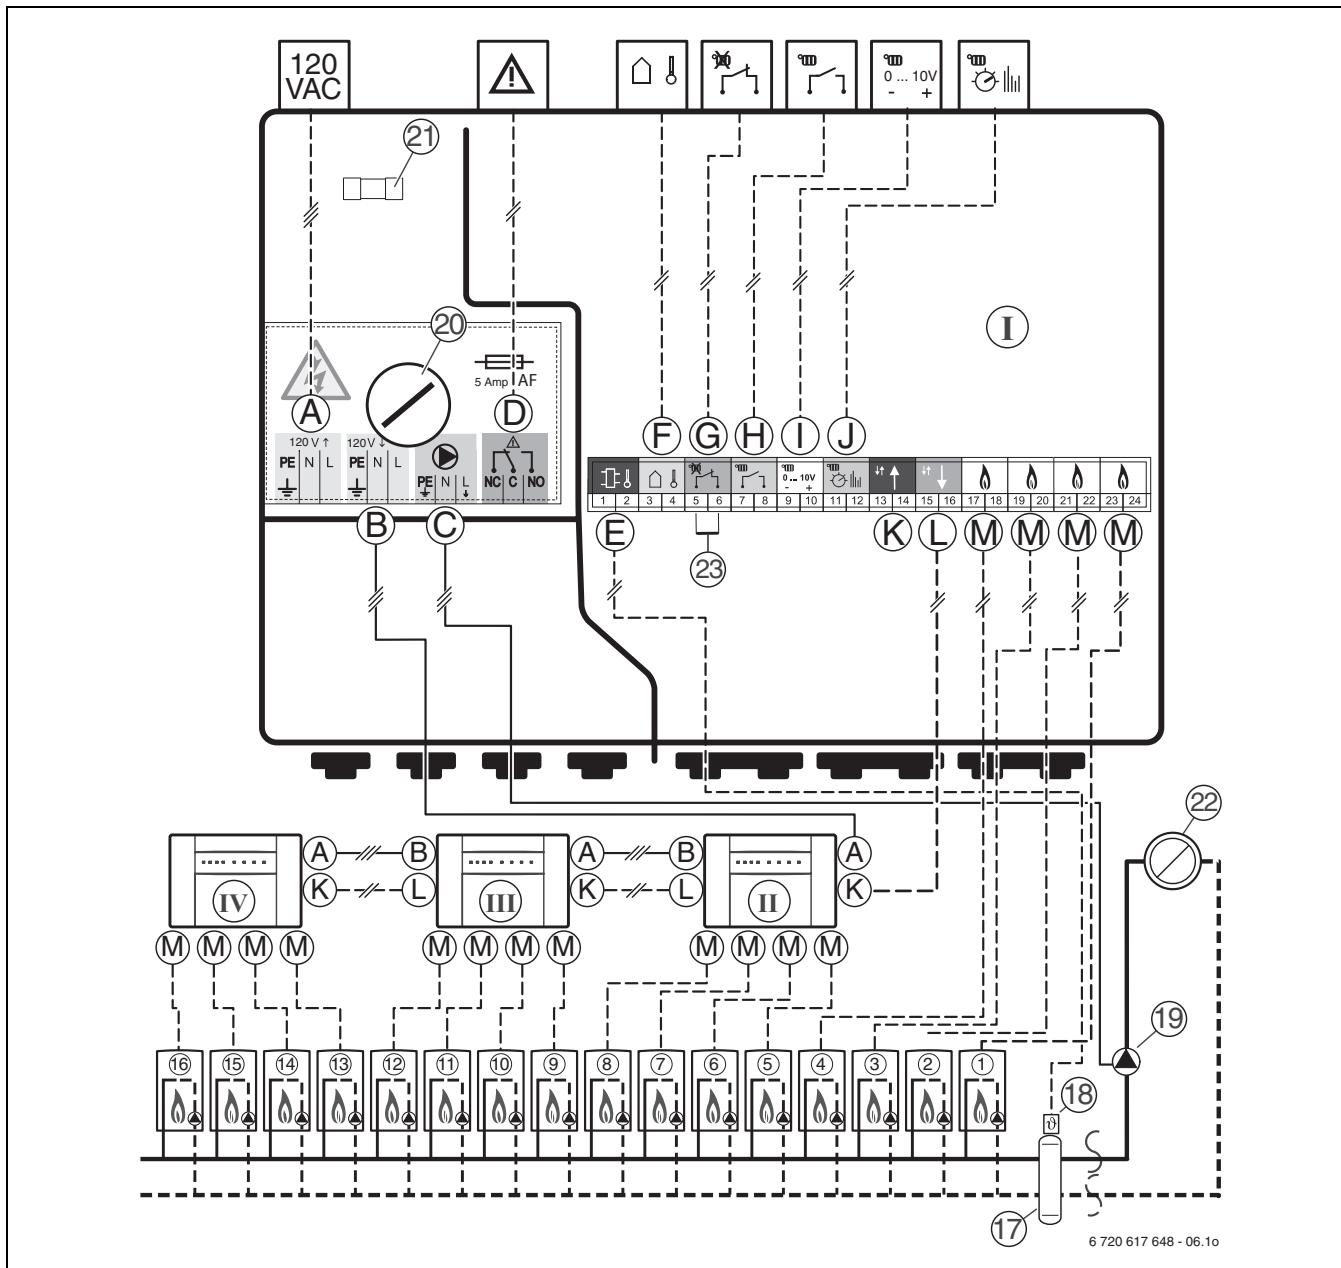

Fig. 6 Wiring diagram
1) (→ fig. 6, page 10)
The ICM modules stage the boilers based on the heat demand calculated. The heat demand is communicated to the ICM in 4 different ways (→ fig. 6, terminals H, I or J, page 10), (→ table 5).
One ICM module can control up to 4 boilers. By connecting up to 4 ICM modules, up to 16 boilers can be linked to form a single cascade (→ fig. 6, page 10). In this case, one ICM module controls the cascade (ICM master).
The ICM module is equipped with an external switching contact (→ fig. 6, [G]). For the characteristics of this switch, see → table 2, page 5.
Any additional modules (→ fig. 6, [21], page 10), must be connected to the BUS of the heating controller.
- ▶ Always wire in accordance with the wiring diagram (→ fig. 6, page 10).
The fault output can be used to signal the device status. The NC pins are powered when no fault is present. The NO pins are powered when a fault is present. (→ fig. 6, terminal D, page 10). The fault LED on the ICM will light when a fault is present and the relay is engaged. (→ table 9, page 16).
In conjunction with the Hydronic 3, always connect the outdoor temperature sensor to the ICM module (master) (→ fig. 6, page 10) and not to the boiler.
For system version 1, the common supply water temperature sensor must be connected to terminals J and for the system versions 2, 3 and 4, to the ICM, terminal E (→ fig. 6, [18], page 10).
Use terminal G (→ fig. 6, [23], page 22) to connect an external limit switch that interrupts all boiler operation when interrupted. Remove jumper [23] when installing an external limit.